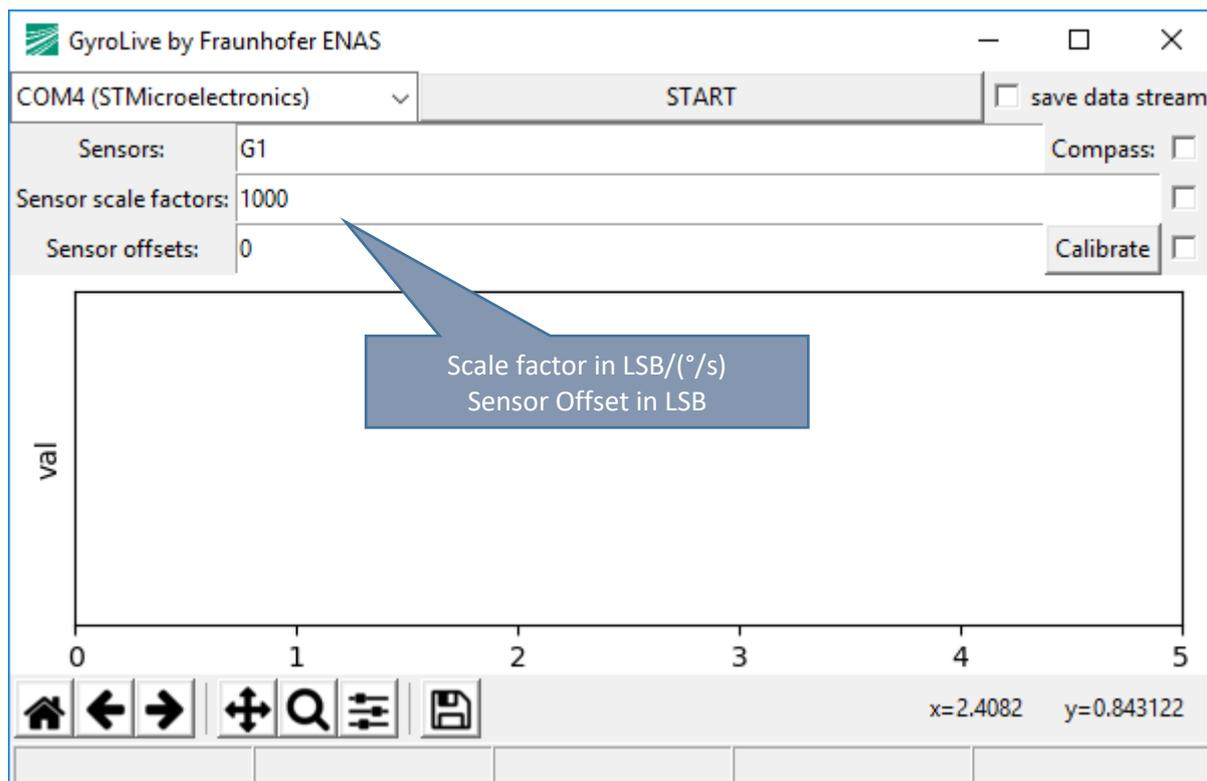

Figure 2: 'GyroLive' screenshot after starting the software, STM-Board is connected to COM4
- ii. With correctly installed STM hardware drivers, the Software automatically chooses the COM port connected to the STM-Board (see Figure 2)